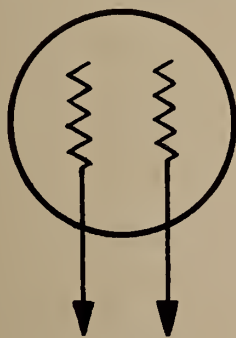

FIGURE 1
wires around an insulating medium, with the element, usually selenium, being spread between the wires and annealed in order to render it light-sensitive, and (2) a glass plate on which has been deposited either gold, platinum or silver, which is divided into two electrical portions by means of a sharp tool, with the selenium being deposited over the entire surface and properly annealed. Although no symbol has as yet been assigned to it, Fig. 1 is offered as typical of this device.